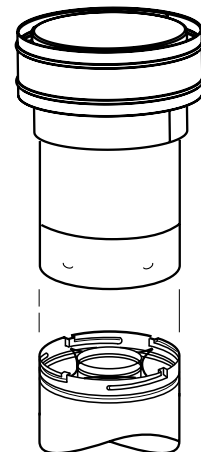

Figure 27
K. Install the vertical termination - The final step involves installation of the SV4.5CGV-1 Vertical Termination. Extend the vent sections to the height as shown in the "Vertical vent termination section" in **Figure 4 on page 6**. The SV4.5CGV-1 Vertical Termination (**Figure 27**) installs in the exact same fashion as any other **Secure Vent** section. Align the termination over the end of the previously installed section, adjusting the radial alignment until the locking dimples of the termination are aligned with the inlets of the four incline channels of the last vent section. Push the termination down until it fully engages, then twist the termination clockwise running the dimples down and along the incline channels until they seat at the end of the channels.